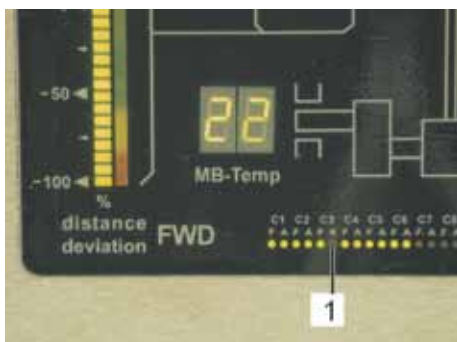

Fig. 105: Distance sensor missing
1. Note: if the number of the distance sensor is not illustrated on the Indication unit (Fig. 105/1 means AFT sensor compartment 3)...